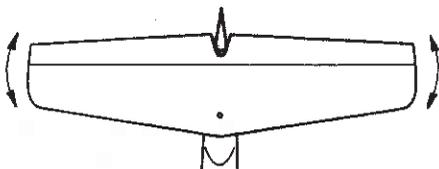

Fig. V.2-2
**WARNING:** For derigging the horizontal tail from the fin it has to be regarded that only the method according to Fig. V.2-2 is used.